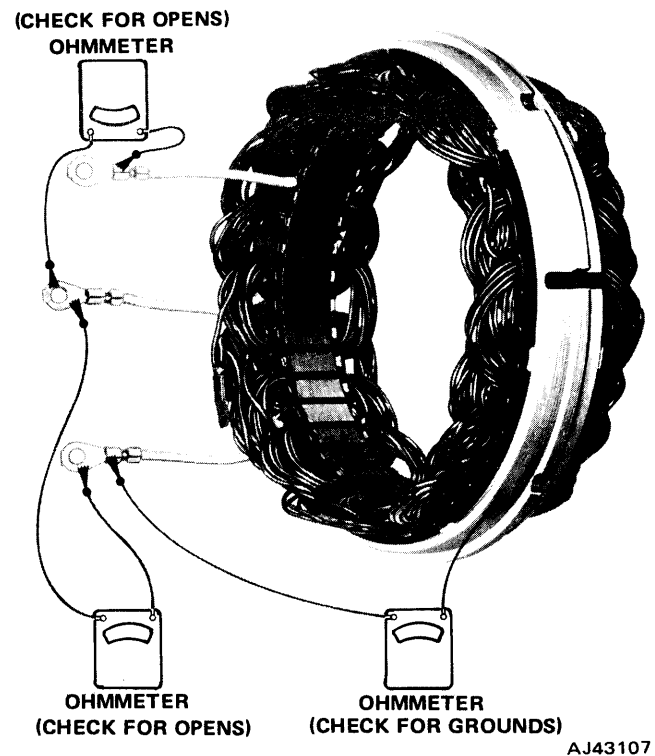

Fig. 3-30 Checking Stator
- (1) Check for grounded windings by connecting lamp or ohmmeter from any stator lead to frame. If lamp lights or ohmmeter reading is low, the stator is grounded (fig. 3-30).
- (2) Test for opens by successively connecting test lamp or ohmmeter between stator leads. If lamp fails to light or ohmmeter reading is high, there is an open in stator windings (fig. 3-30).
- (3) Locate short circuits in stator windings.